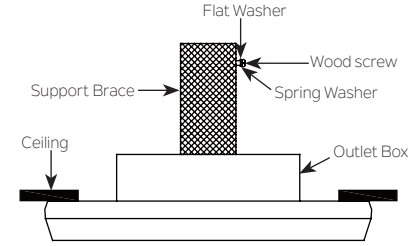

Fig. 7
Step 1. Drive a wood screw and washers into the side of the brace that holds the outlet box. Leave 3mm (1/8") of space between the support brace and the washer. (Fig. 7)